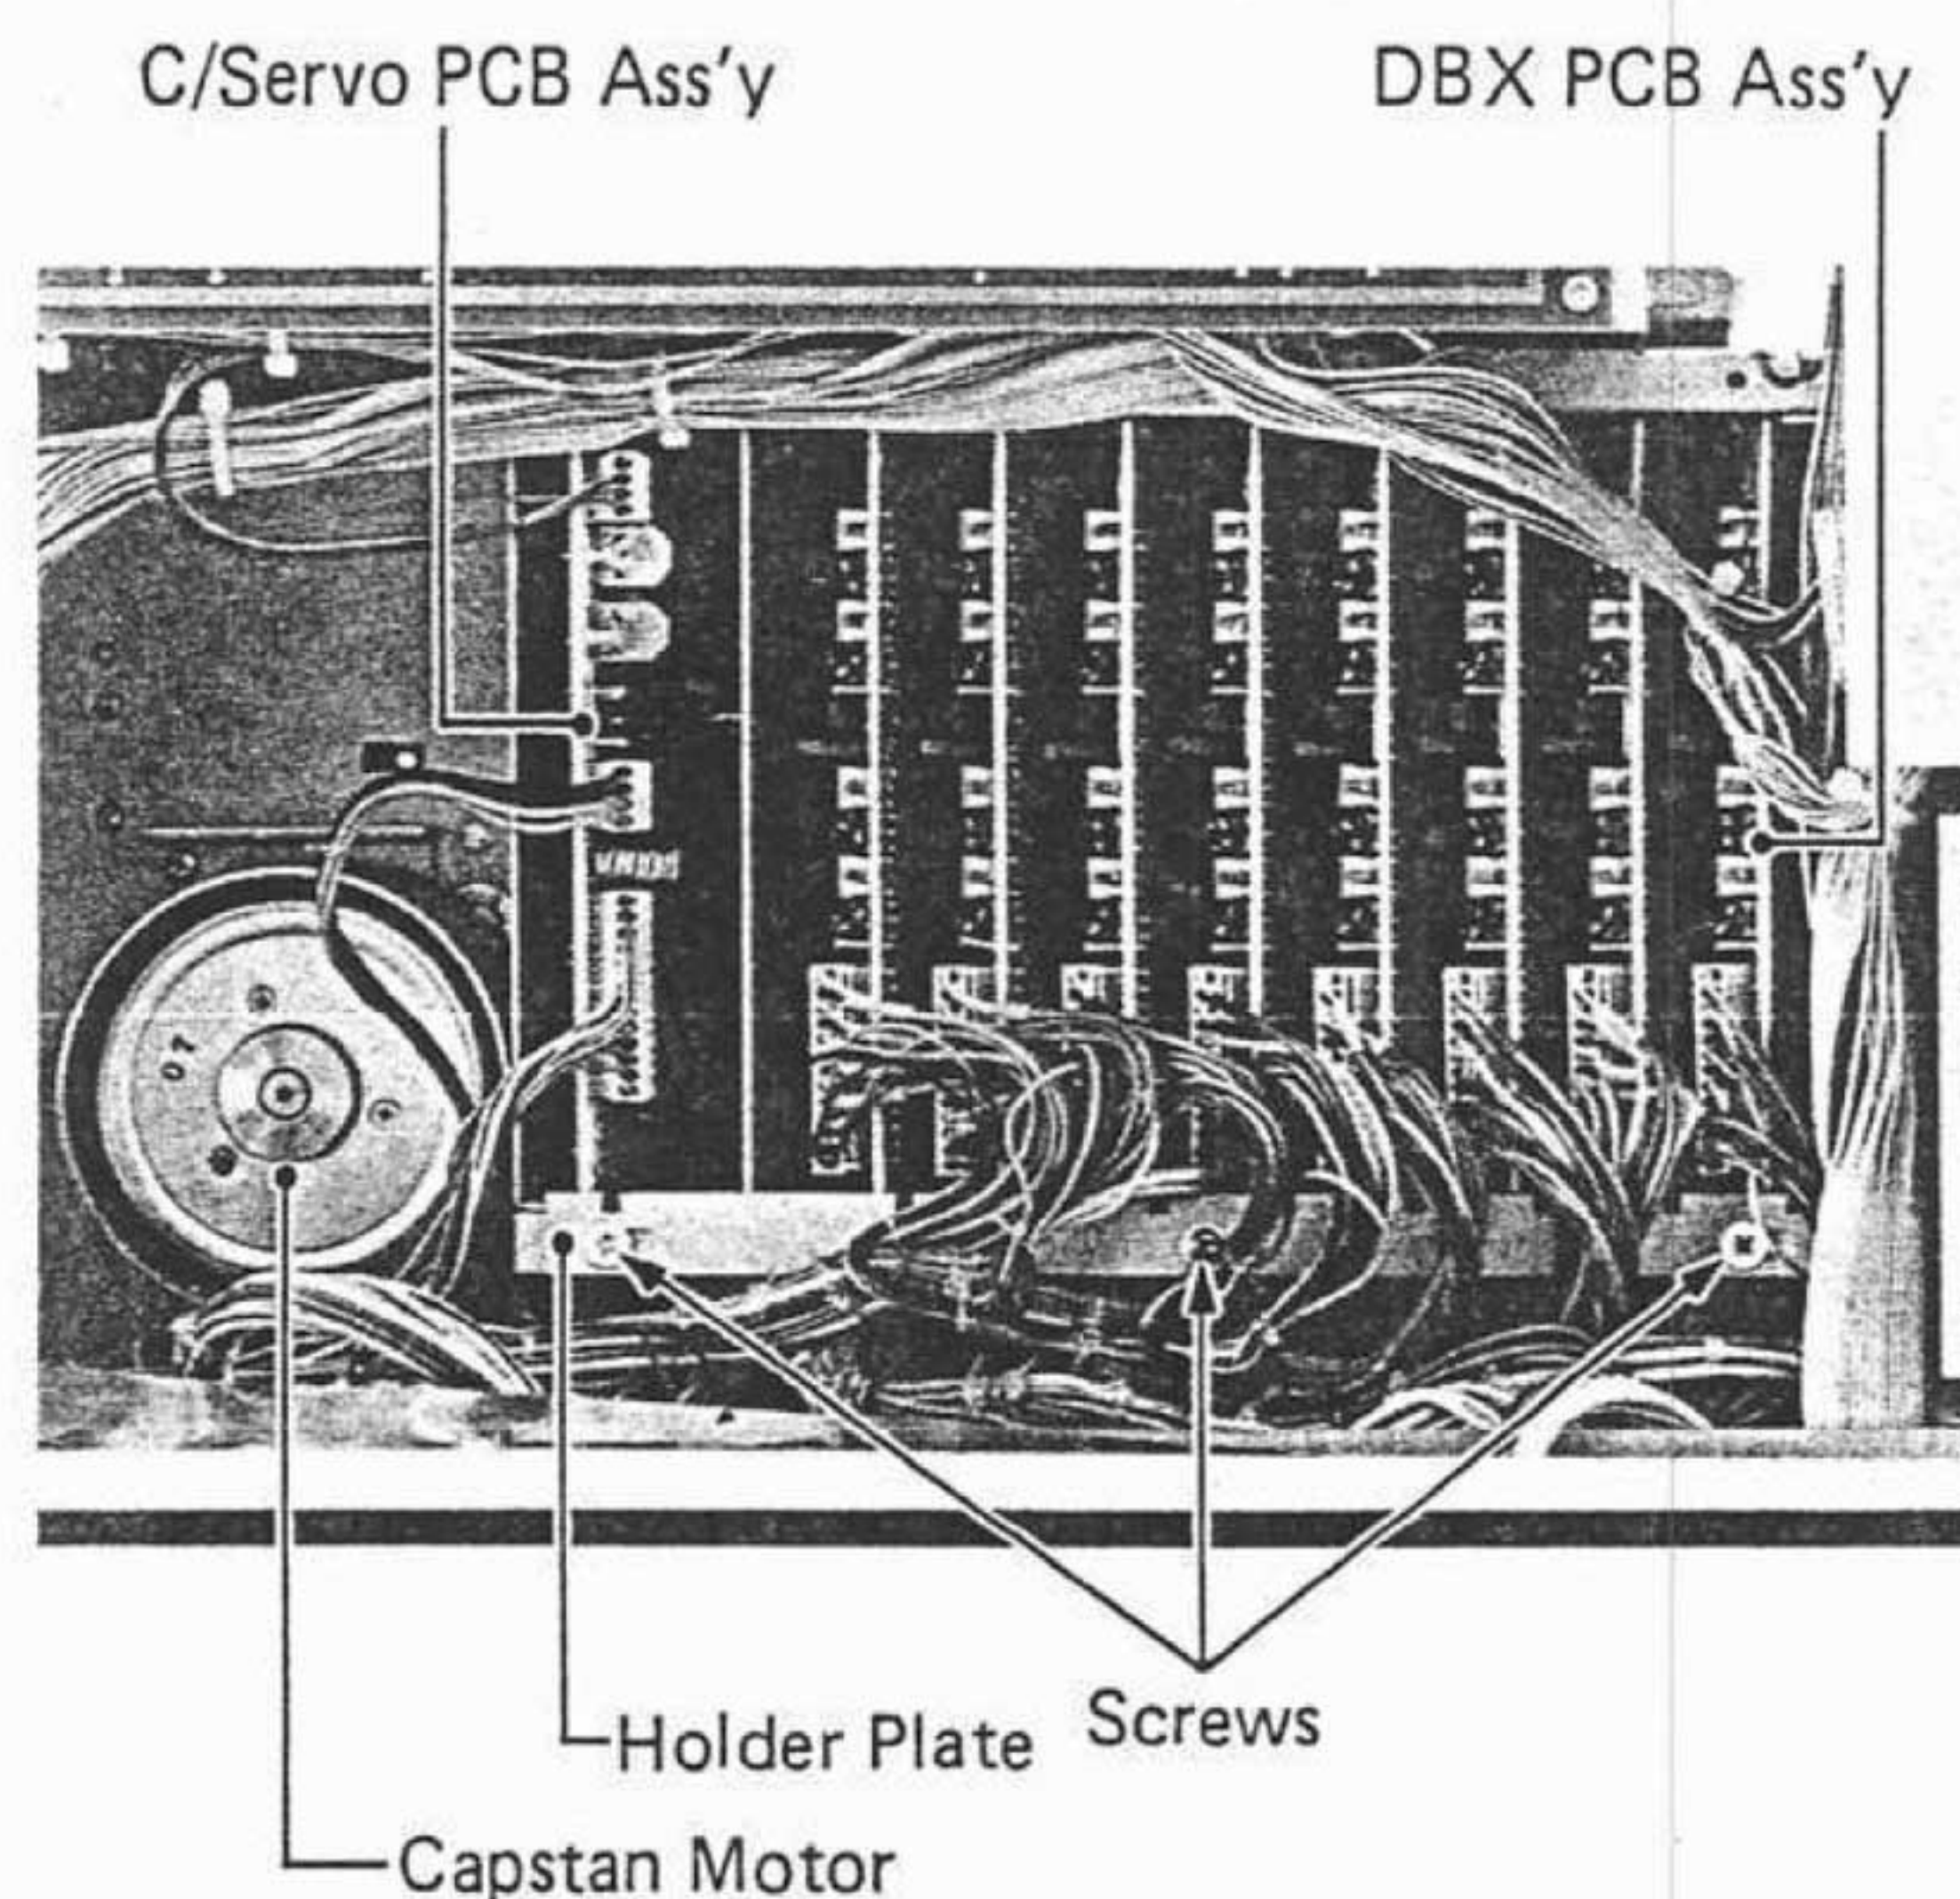

FIG. 14. REMOVAL OF DBX & CAPSTAN SERVO PCB CARDS
2. Loosen the three screws shown in Fig. 14, and slide the holder plate until the cutouts in the plate line up with the PCB cards so these can be slid out.